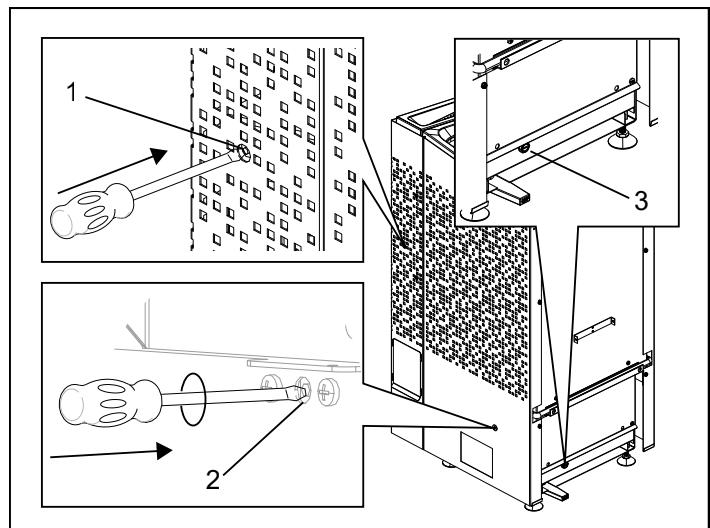

Figure 9: Resetting the temperature cut-out
• **Water reservoir** - The temperature cut-out in the reservoir is designed to protect the heater element from boiling dry. On the left side, seen from front, there is an hole, use a slim object to reset the cut-out, see 1 Figure 9. If the cut-out has activated, the button will feel stiff and will 'click' when reset. If the cut-out has not activated and after resetting, the button will feel springy.
• **Heater** - The temperature cut-out in the heater is there to protect the components, pipe elements and woodwork in the sauna from overheating. On the left side, seen from front, there is an hole, use a slim object to reset the cut-out, see 2 Figure 9. If the cut-out has activated, the button will feel stiff and will 'click' when reset. If the cut-out has not activated and after resetting, the button will feel springy.
| Lights in the sauna do not come on when switched on at the control panel.                                       | <ol style="list-style-type: none"> <li>1. Internal glass fuse in heater faulty?</li> <li>2. Is lighting connected via the heater?</li> <li>3. Internal heater PCB fault?</li> </ol>  | <ol style="list-style-type: none"> <li>1. Switch off at main power switch on heater and replace glass fuse. See fig 9.</li> <li>2. Verify with authorised electrician who performed installation of heater/lighting.</li> <li>3. An authorised electrician is required to find the fault.</li> </ol>   |